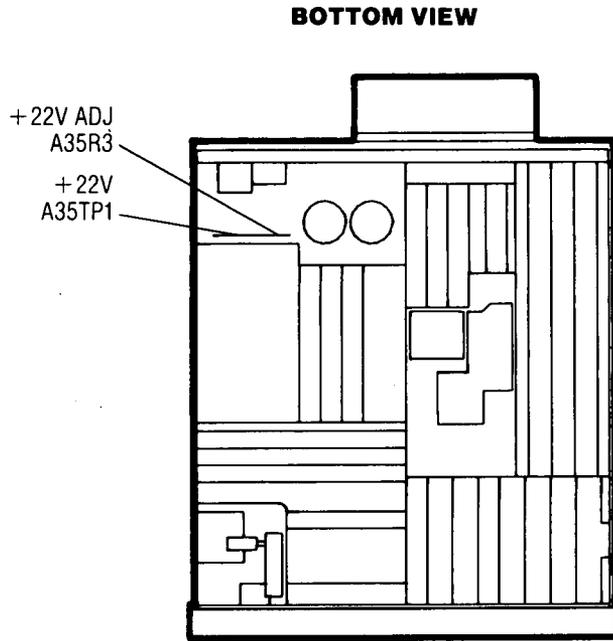

Figure 5-2. +22V Power Supply Adjustment Locations
4. The DVM indication should be $+22.000 \pm 0.010$ Vdc. If the indication is out of tolerance, adjust A35R3 +22 ADJ (Figure 5-2) control for the specified voltage.